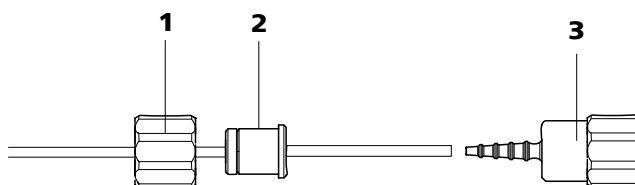

Figure 33 Install pump tubing connection without filter
- **Case B:** a 6.2744.160 pump tubing connection **without filter** (see figure 33, page 58).